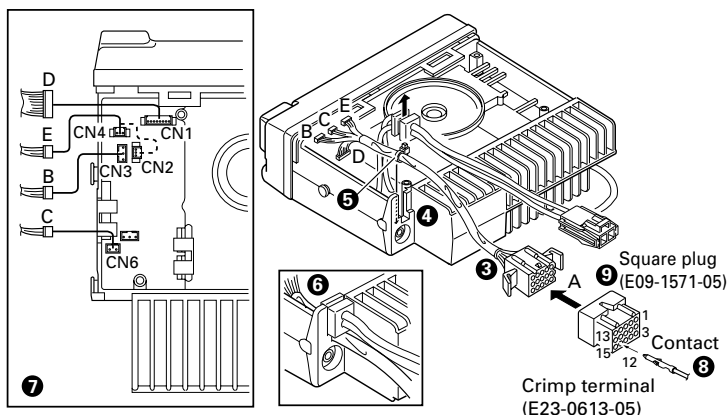

Fig. 2
4. Replace the DC cord bushing (❻).
5. Connect the KCT-19 to the TX-RX unit (A/2) as shown in Figure 2 (❶).
6. Connect the KCT-19 to the external accessory by inserting the crimp terminal (❸) into the square plug (❹), both of which are supplied with the KCT-19.